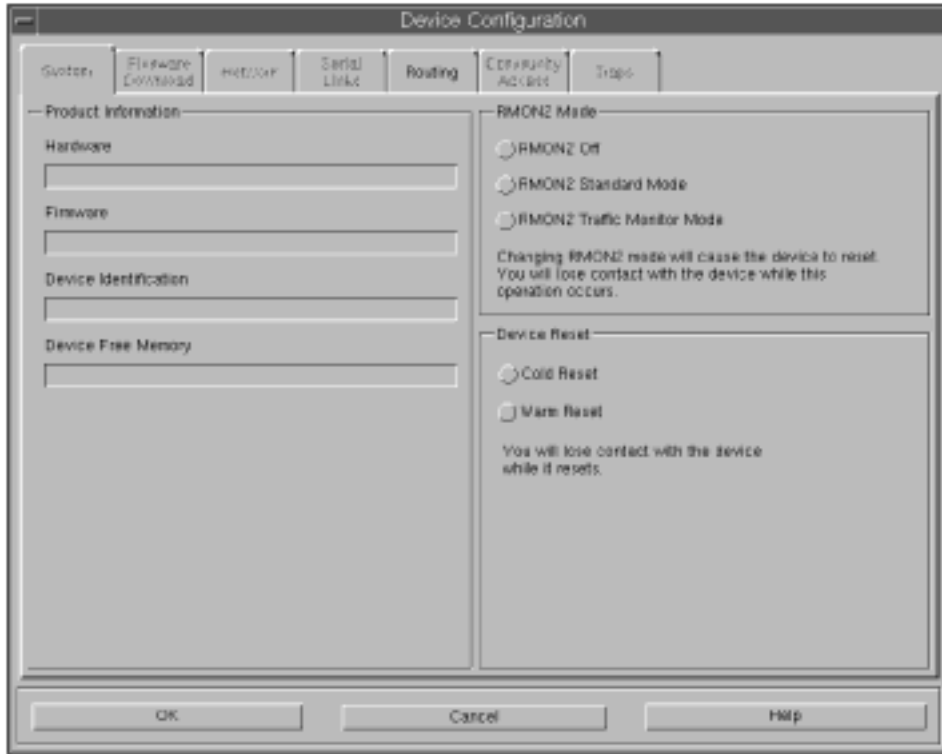

Figure 7. Device Configuration Dialog Box
2. Click **Device Configuration** to display the Device Configuration dialog box, shown in Figure 7 on page 18.